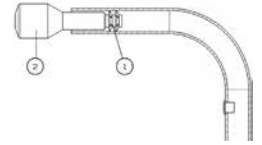

Fig. 40
- Insert a 1/4"-20 grip nut (1) (Fig. 40) with the grip nut insertion tool (2) inside the handle (40 mm).